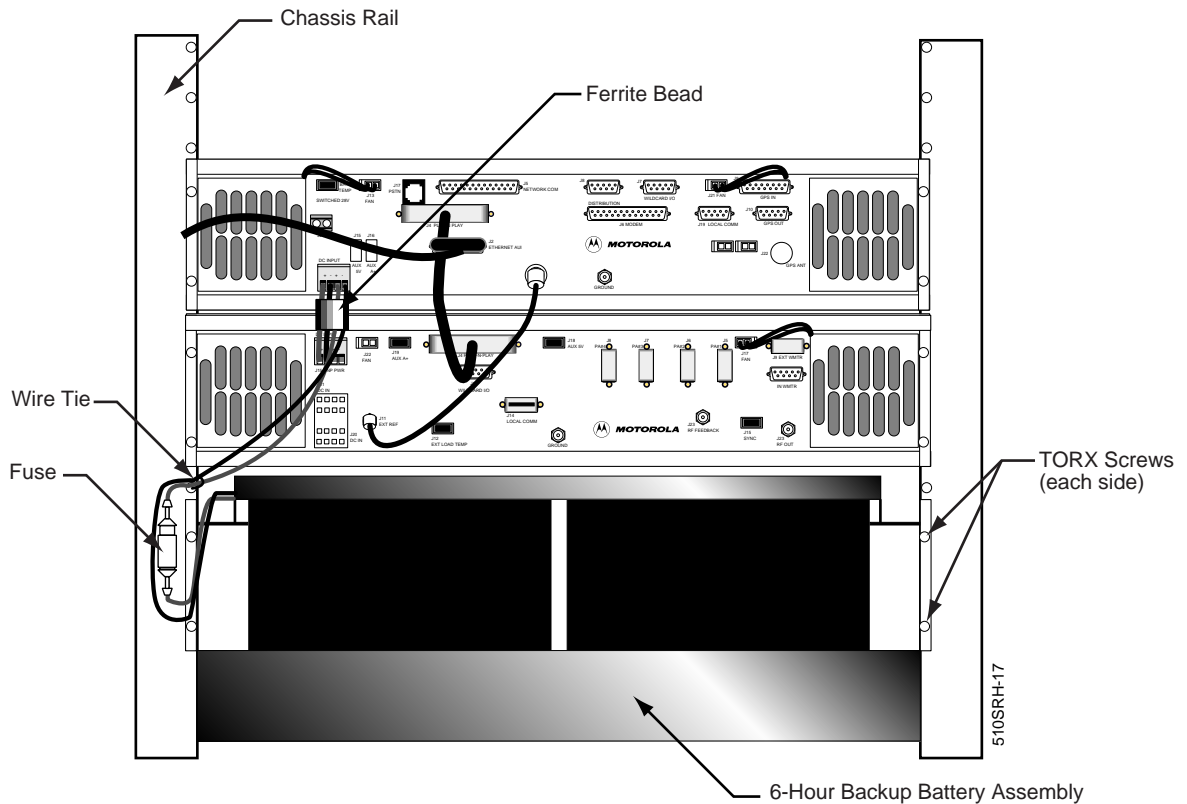

Figure 6-9: 6-Hour Battery Assembly (Installed)
7. Remove the wire tie that secures the wires to the chassis (see Figure 6-9).
8. While supporting the battery assembly, remove and save the four #30 TORX screws and remove the battery assembly (see Figure 6-9).
2. Align the bracket holes on the battery assembly with the chassis holes and install the four screws removed in paragraph, "6-Hour Battery Removal", Step 8 (see Figure 6-9).
5. Anchor the wires to the chassis rail using a wire tie (see Figure 6-9).